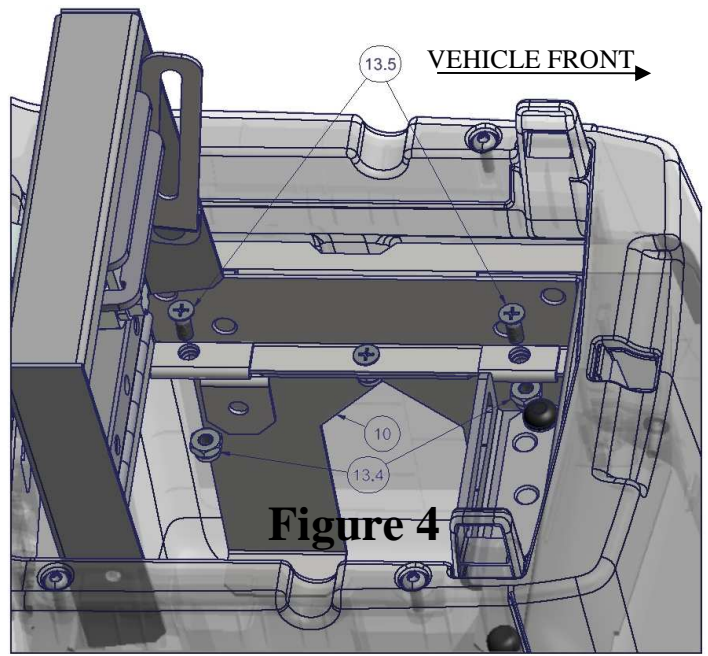

Figure 4
7. Install (2) #13.5 Screws and (2) #13.4 Nylock Nuts to secure the #10 Left Brace in position. (See Figure 4)